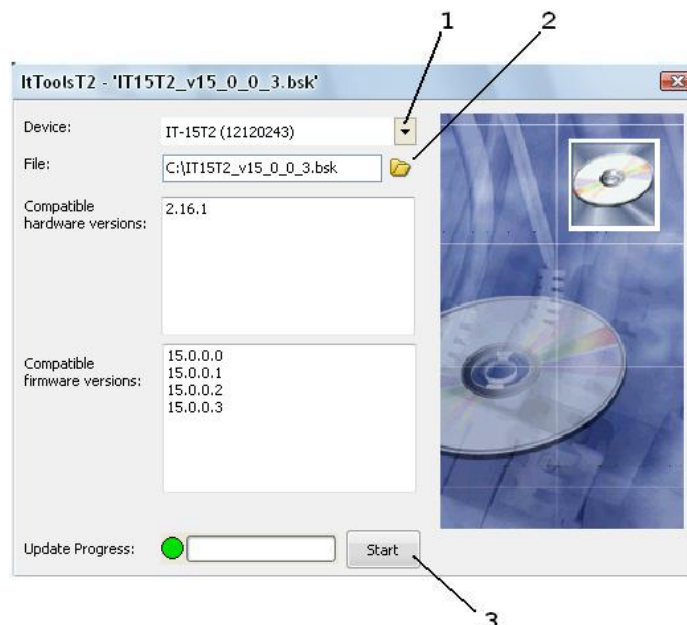

Figure 4.12.2
- select the Analyzer with the corresponding serial number from the list (position 1 in Figure 4.12.2) and in the next field (position 2 in Figure 4.12.2) select a file with new version of IT-15T2 firmware;
- click the **Start** button (position 3 in Figure 4.12.2) to start the firmware updating. Confirm the updating in the confirmation dialog.